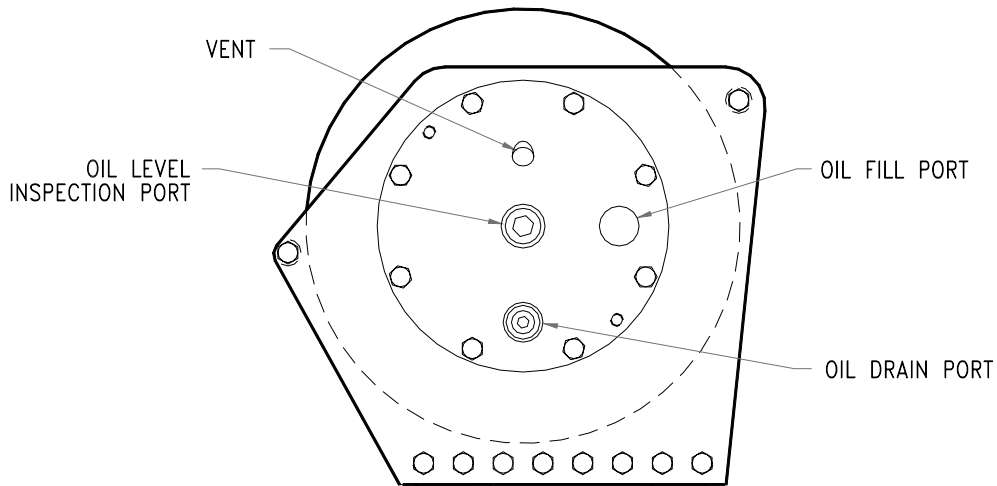

Figure 1.1, Gearbox Oil Level Inspection
- Gearbox oil level inspection is achieved by removing the oil level inspection plug and visually inspecting the oil level. Maximum oil level is to the bottom of the threads of the inspection hole. This procedure is explained, in detail, in your Tulsa Winch Service Manual. Use only the oil recommended in the Tulsa Winch Service Manual for your hoist type. See Fig. 1.1, Gearbox Oil Level Inspection.